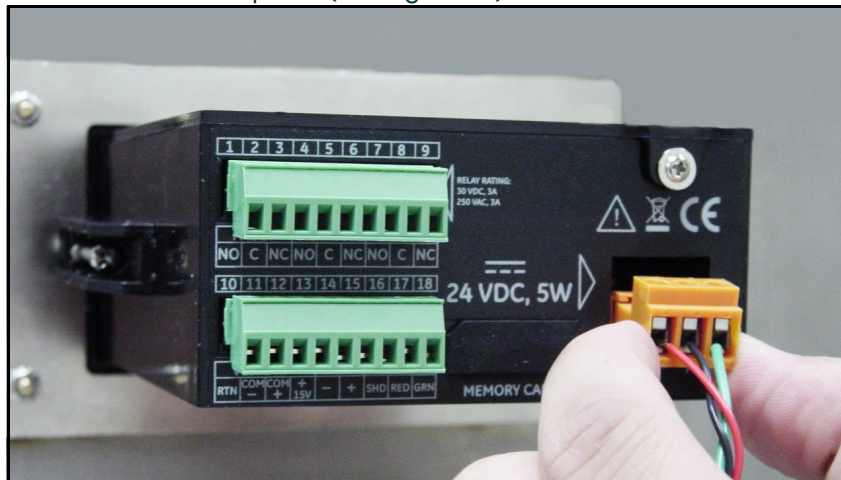

Figure 42: Reinserting the DC Connector
4. Reinsert the DC connector into the rear panel (see Figure 42).